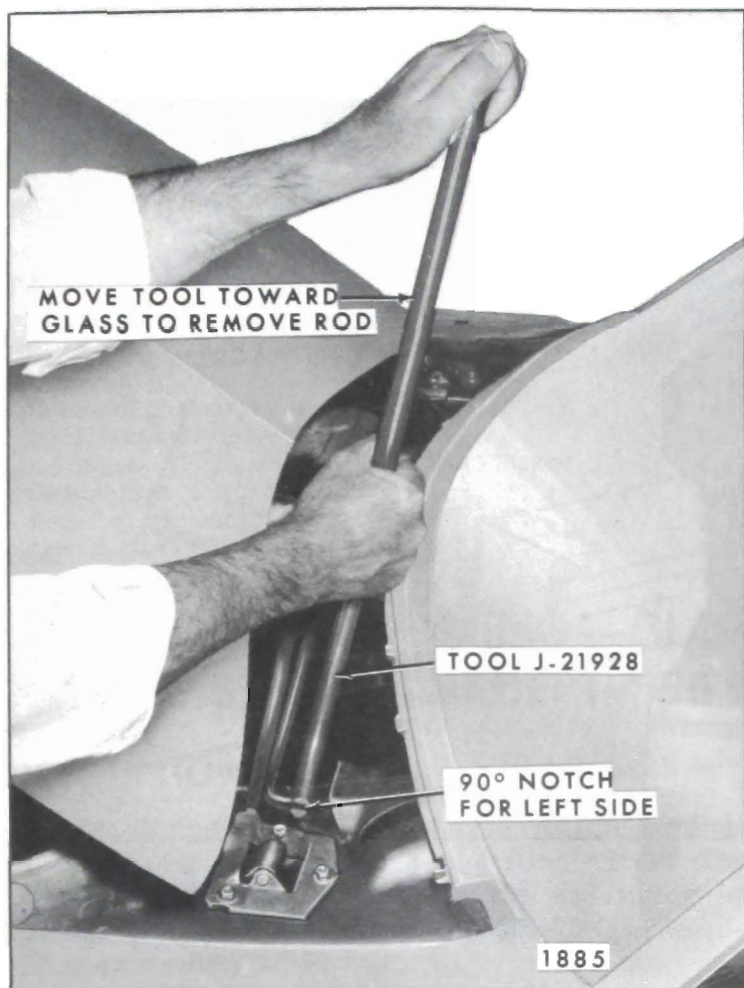

Fig. 3-29—Torque Rod Removal - Left Side
7. In like manner remove rod on left side of body (Fig. 3-29).